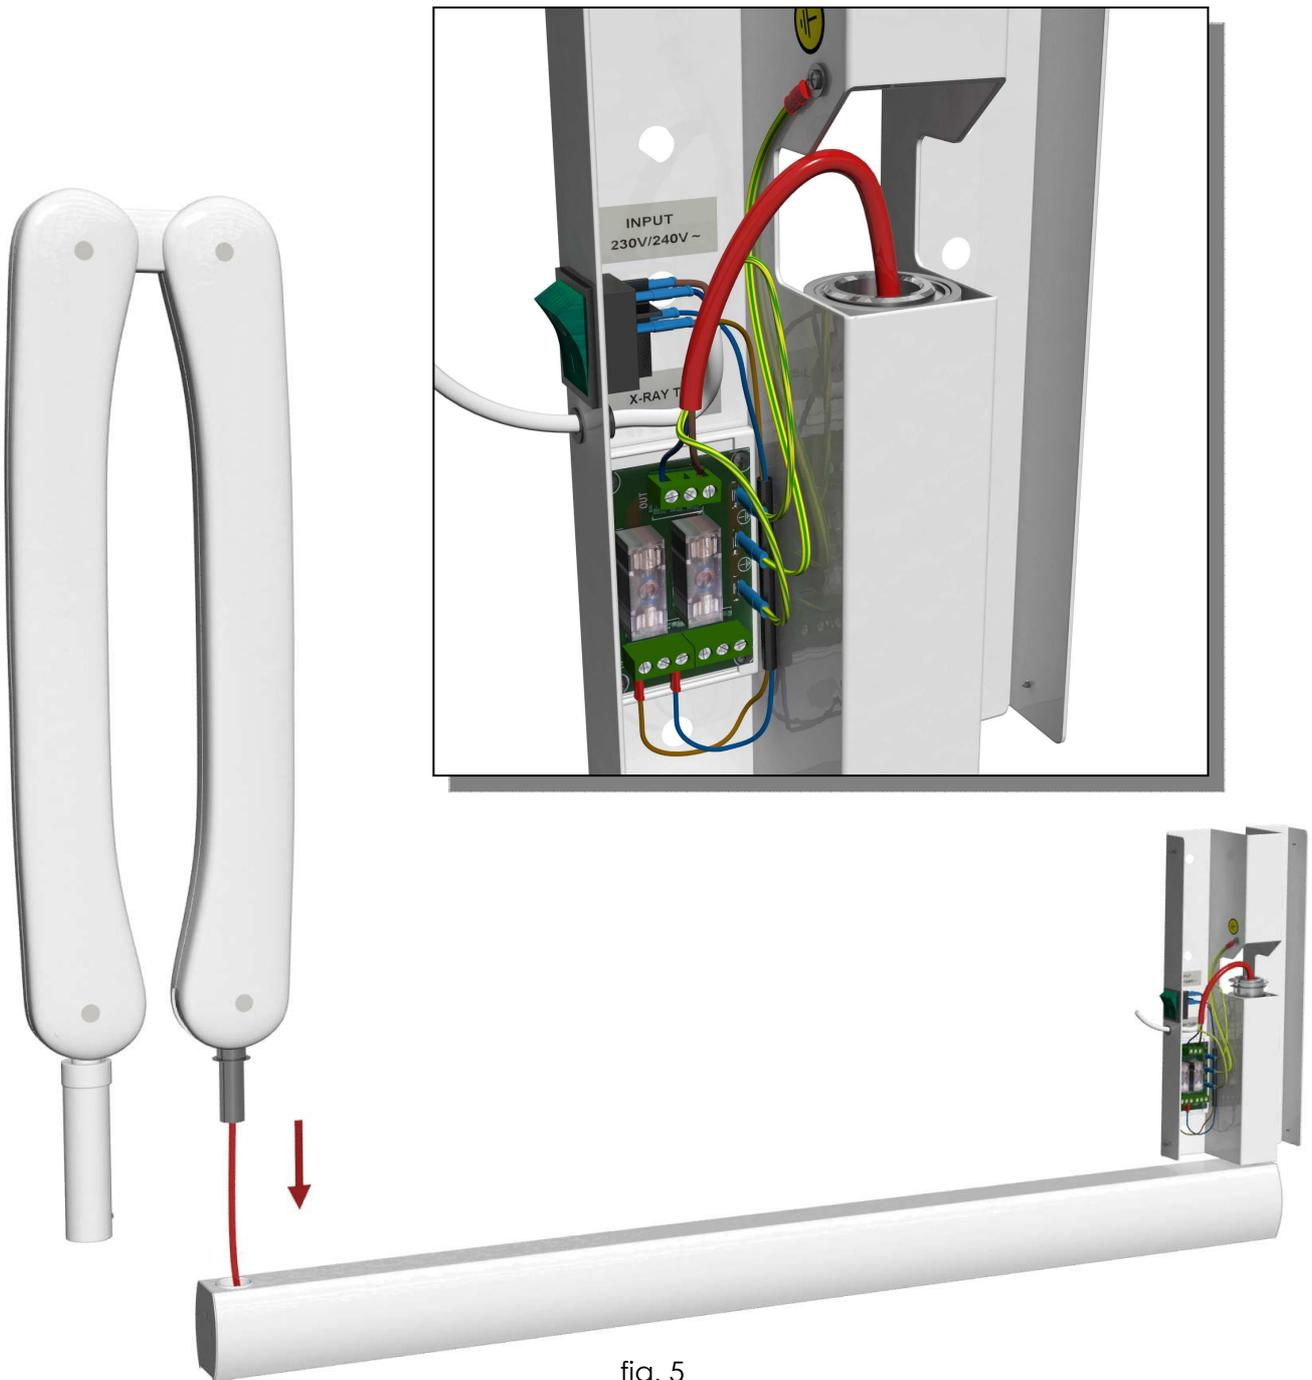

fig. 5
- ✓ Enter the double pantograph arm (**C**) in the extension (**B**) and route the cable as shown in Figure 5. Close the extension repositioning the lower strip cover strips. Connect the cable from the double pantograph arm to output X-RAY TUBE and the ground wire IN in its slot.